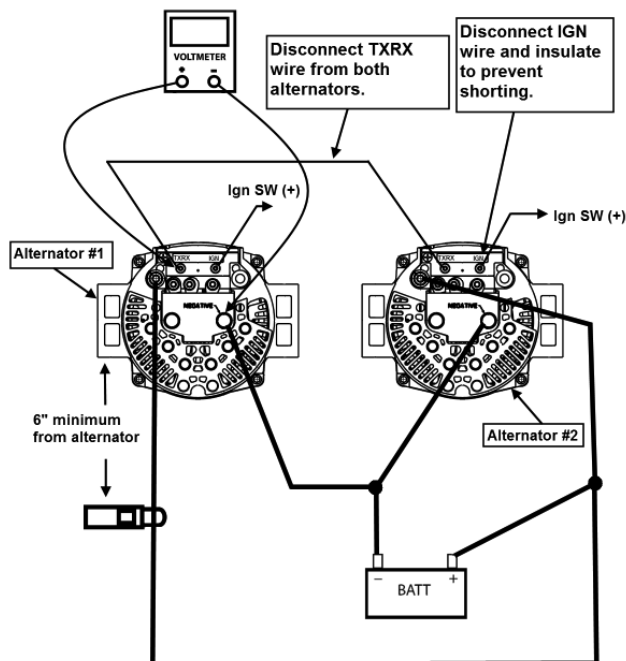

Fig 6
- 3) Connect voltmeter and ammeter per Fig 6. Set voltmeter to read DC